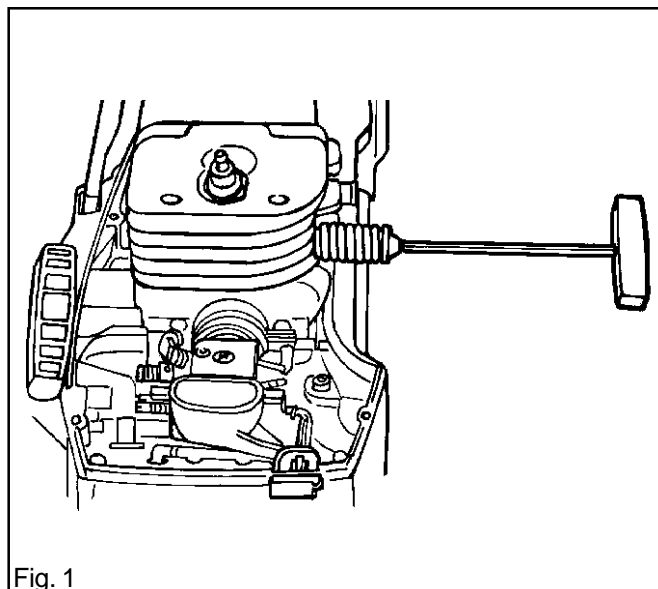

Fig. 1
1. Remove the springs on the cylinder with a 4 mm Allen key. See fig. 1.